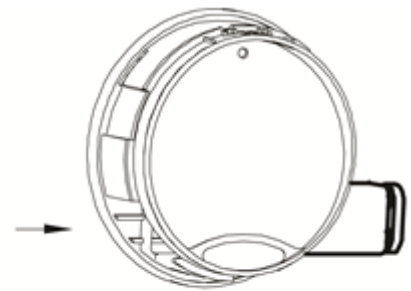

Fig.3
2. Push the battery from the bottom left side of the entrypad and unsnap the battery from the connector. See Fig.3.